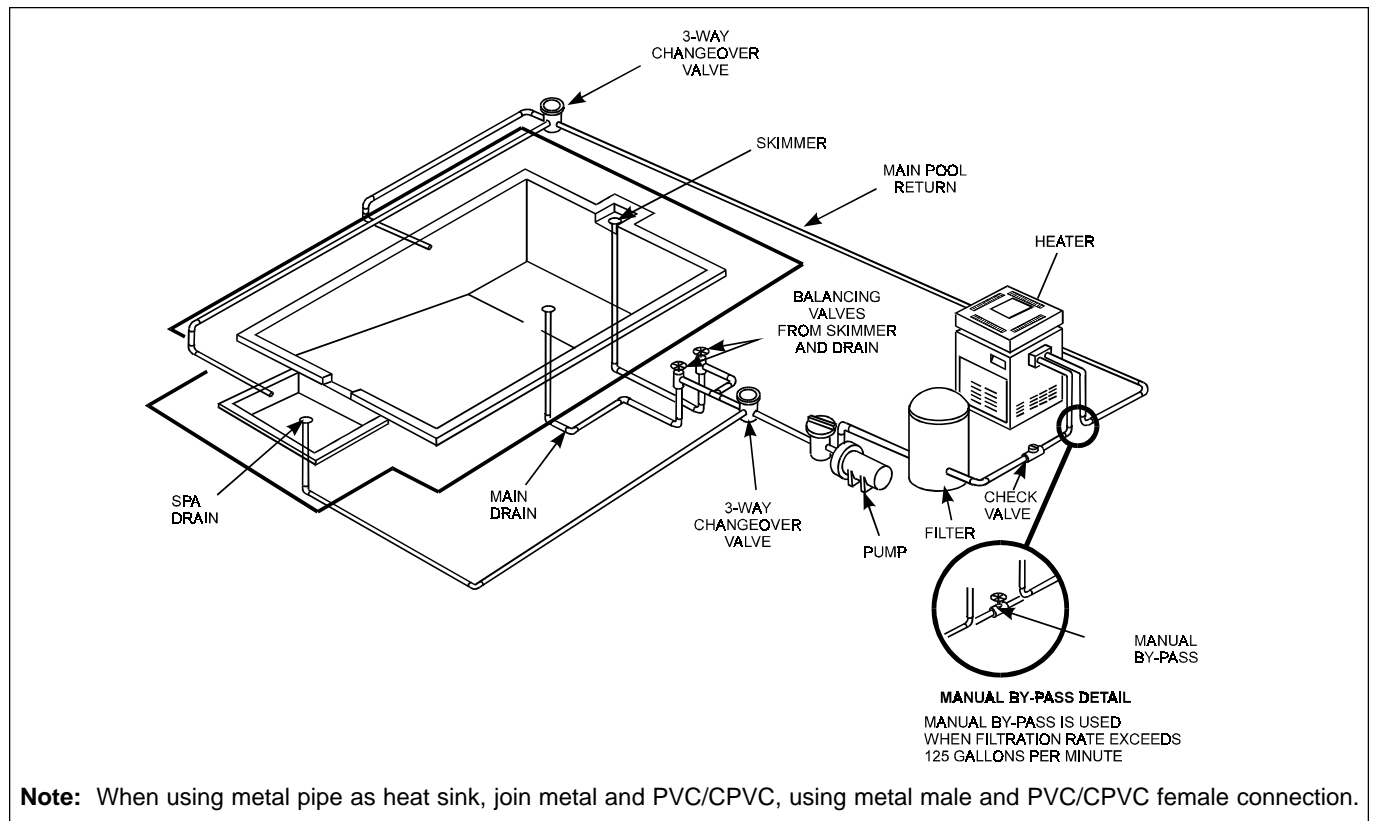

Figure 20. Typical installation.
4. Remove the drain plug from the return side (see Figure 20), loosen the drain plug from the inlet-outlet side, and completely drain the heater before the first frost.